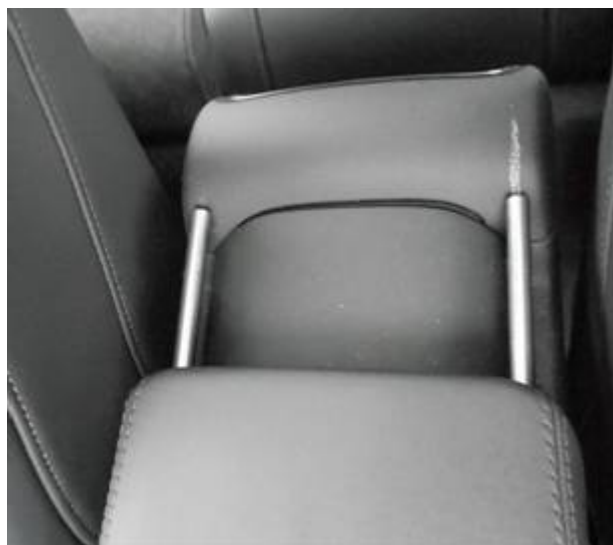

Figure 1. Detached rods that have pulled out of the armrest cover.
- Condition A: If the armrest slides past its limit and the rods are pulled out of the armrest (Figure 1), it is because the retention of the bracket is insufficient.